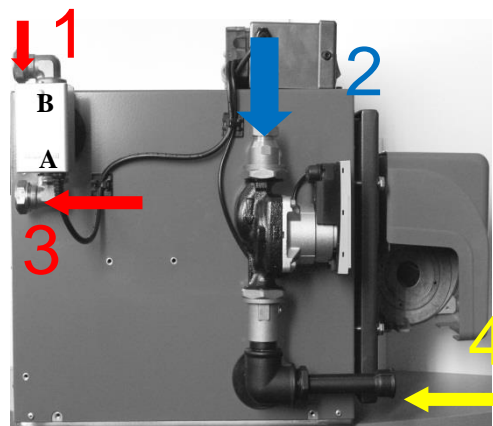

Fig 2
- Always assemble the expansion tank in the return pipe (see fig 2) as near as possible to the boiler.
### HR calorifier boiler (fig 2)
4. Assemble the separately supplied filler tap and drain combination at point 4 (see fig 2).
3. Assemble the separately supplied filler tap and drain combination at point 4 (see fig 2).
The loose fill and drain combination is mounted at point 4 (see figure 2, page 8). Connect your hose on to open the fill and drain combination black button draaien. Open tap the left and put the kettle on 2 bar pressure (see pressure gauge). Vent the entire heating system and put the heating system is between 1.5 and 2 bar pressure.